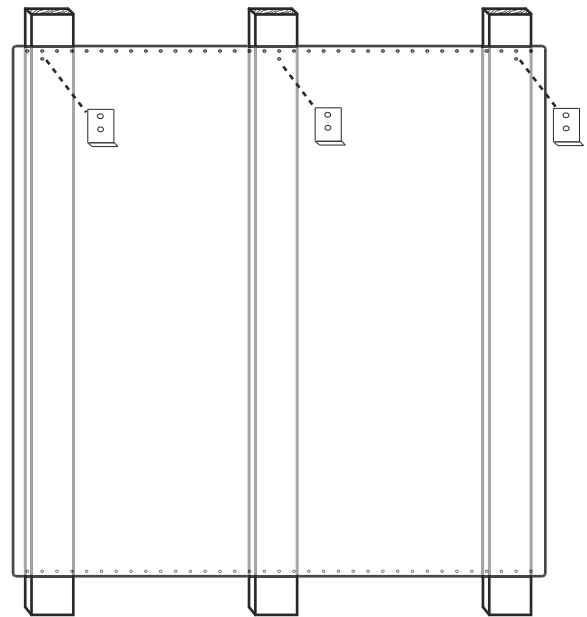

Figure 22: Backsplash with a Keep Hot Shelf
3. At the locations indicated in *Figure 22*, mount the lower shelf brackets included with the Keep Hot Shelf through the Backsplash and into the wall studs.